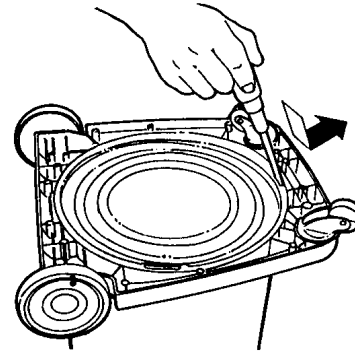

Fig.1
1. Insert a screw-driver (-) into the reverse side of the Frame and push out the Claw at the frame for taking out the Lower Body (Fig.1).